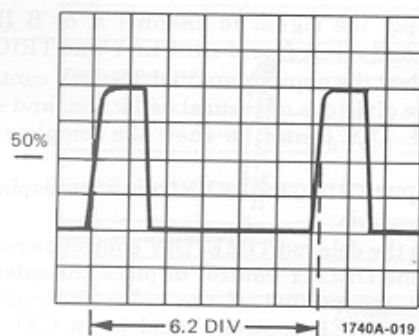

Figure 20. Time Interval Measurement Using Main Time Base
5. Using horizontal POSITION, place the 50% point of the first pulse on a convenient graticule line and count the number of divisions to the 50% point of the second pulse (see figure 20).